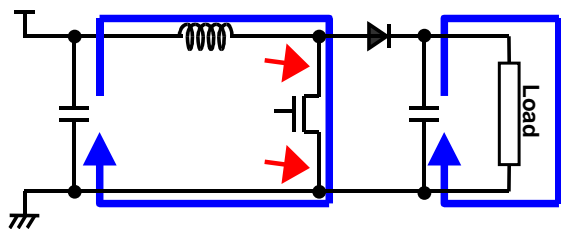
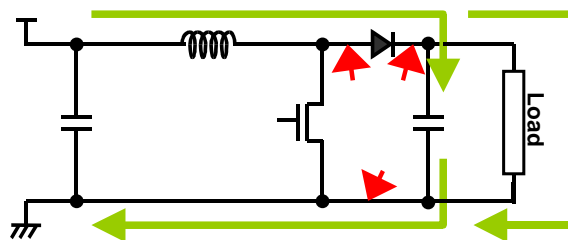

Figure 8. MOSFET-ON
Figure 9. MOSFET-OFF
Figure 8 and Figure 9 show flows of current paths of the application circuits when MOSFET is ON and when MOSFET is OFF, respectively.
- Parasitic elements (impedance, inductance or capacitance) in the paths pointed with red arrows in Figure 8 and Figure 9 influence stability of the system and cause noise outbreak. It is recommended that these parasitic elements be minimized.